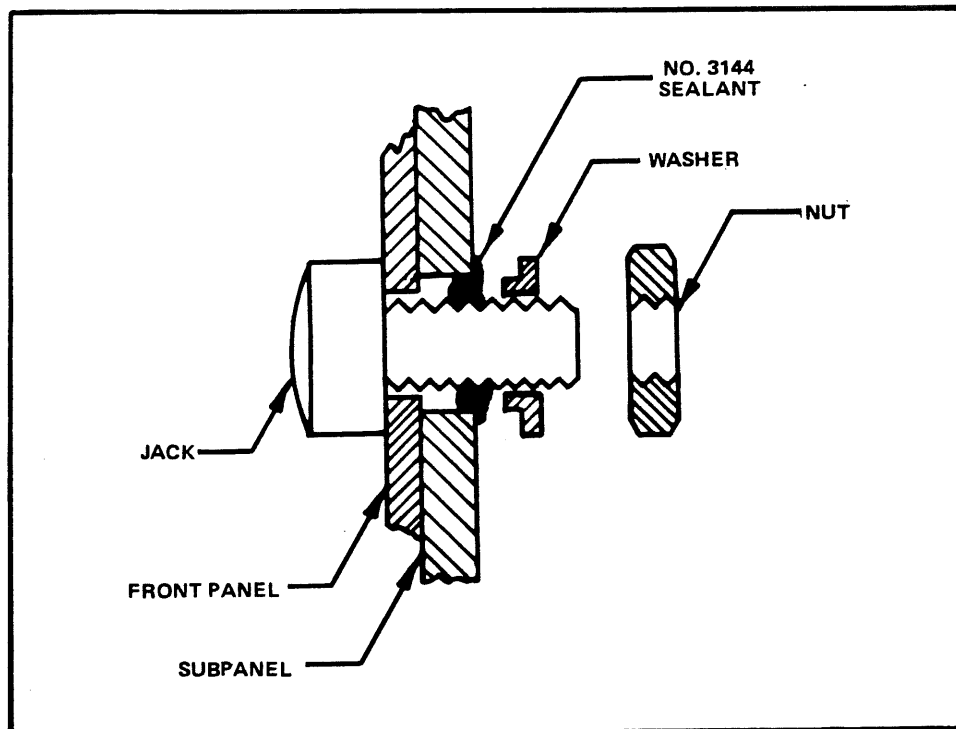

Figure 33. Detail of front panel jacks.
STEP 31. Watertight sealing procedures for the Front Panel jacks of the X-Y Output Module, 016-0606-00, (see Figure 33)
- (1) TPN 333-2021-00, MPL Item 3-13.
- (1) Clean the mating surface of the Subpanel with isopropyl alcohol.
- (2) Align the Front Panel over the Subpanel and insert one of the jacks in its respective position.
- (3) Form a bead of No. 3144 Sealant around the Jack/Subpanel interface as shown in Figure 33.
- (4) Use the supplied washer and nut to secure the jack in position.
- (5) Repeat Steps (3) and (4) for the remaining five jacks.